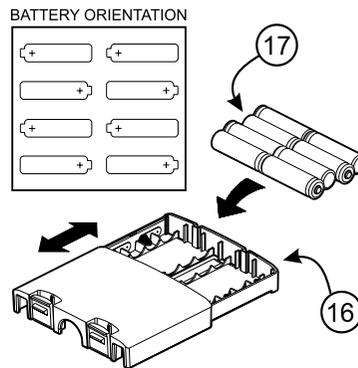

Figure 9 – Installing Alkaline Batteries.
b) Place the base of the battery pack at the rear of the battery compartment (A). Push the front edge of the battery pack into position (B). The two battery clips will "click" into position to hold the battery pack in place (see figure 9).